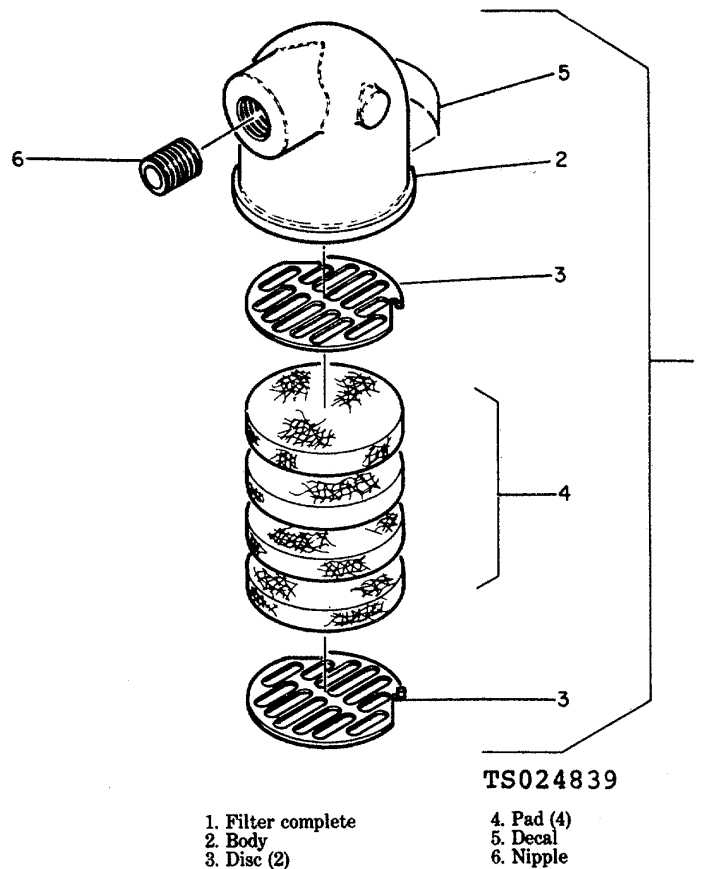

Figure 3-7. Inlet filter, exploded view.
- (1) Wipe off the outside and mouth of the body (2, fig. 3-7) then remove one disc (3) and four pads (4)